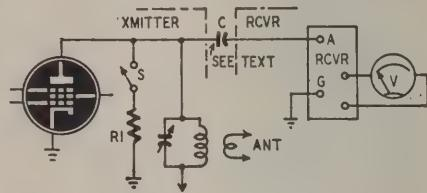

Fig. 1—Setup for radiationless tuning.
The circuit connections are shown in Fig. 1. The receiver is loosely coupled to the plate lead of the transmitter tank circuit by capacitor C, which consists of approximately 1 inch of insulated wire wound around the plate lead. The receiver is tuned to the operating frequency of the transmitter, and the static noise voltage picked up by the transmitter antenna is read on the output meter.
Correct antenna coupling is determined by adjusting the coupling controls until the received noise voltage, as indicated by the output meter, drops to about one-half its peak value when a resistor equal to the load resistance required by the transmitter output tube is connected from the plate of the transmitter output tube to ground. Resistor R1 in Fig. 1 is the load resistor used for this purpose. It is the  $\frac{1}{2}$ -watt carbon resistor previously specified as required equipment.
3. Couple the receiver input to the plate circuit of the transmitter final amplifier tube as indicated in Fig. 3, a simplified form of Fig. 1. (As previously stated, capacitor C, the coupling unit, consists of approximately 1 inch of insulated wire wrapped around the plate lead. This is quite sufficient for the frequency ranges used for amateur communication. The lead from C to the receiver antenna terminal should be a shielded wire not over 4 or 5 feet long. *The shield must be grounded.*)